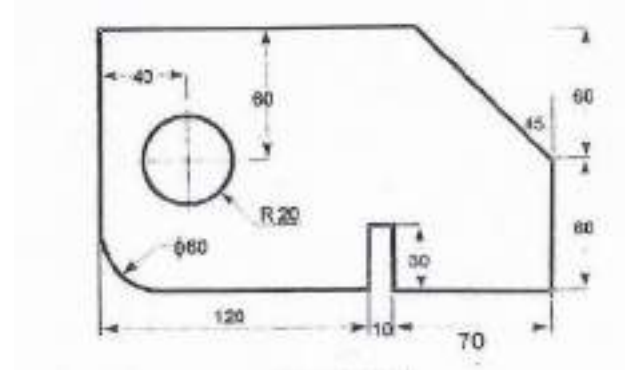

Fig: 2
6. Redraw the object shown in Fig: 2 and make the correct dimensioning as per BIS standards.